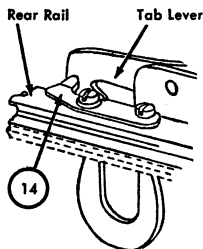

Figure 29. Tab Lever Stop
14. TAB LEVER STOP. Adjust so that when the cam is on its high point there will be a clearance of from $.000$ " to $.005$ " between the stop and the tab lever (Figure 29).